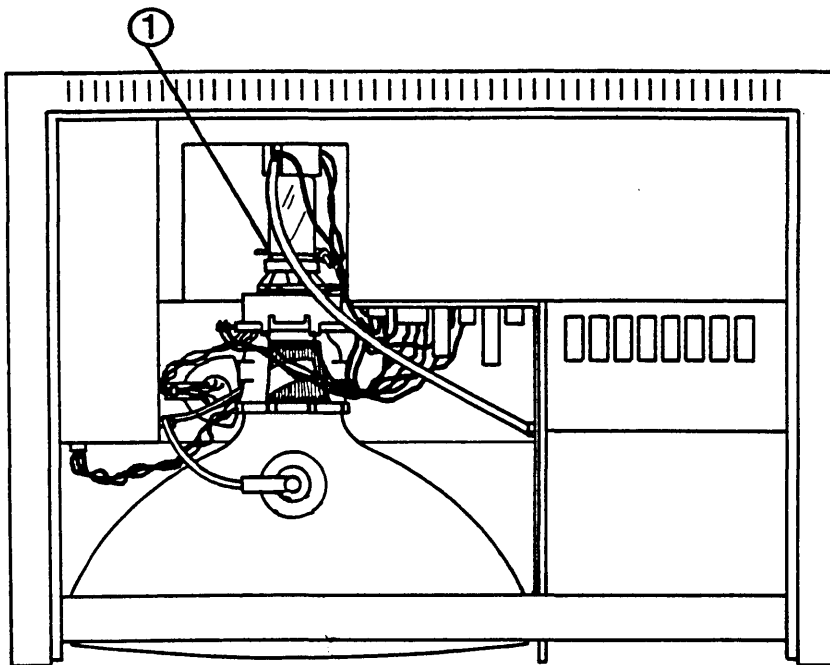

FIGURE 5
6. Center the picture by turning the centering rings (Figure 5, #1) attached to the CRT yoke.